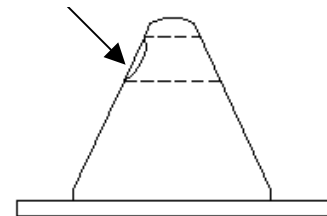

Figure 4.
- b. Rotating the cone 90 degrees shows the broken edge/concave dip in the cone surface as shown in figure 4 below.